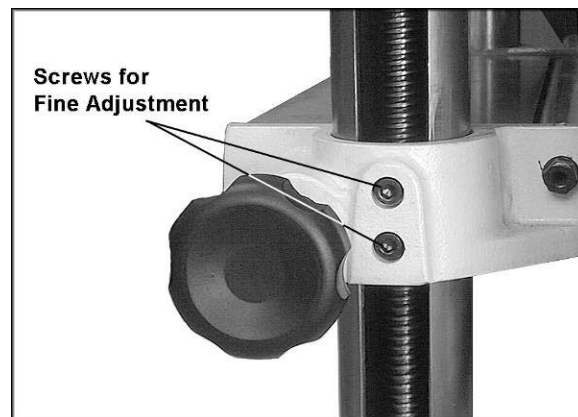

Figure 19
2. Locate the two socket head cap screws in the table casting for each of the columns (Figure 19). Loosen both sets of screws for each column on the side you wish to adjust.